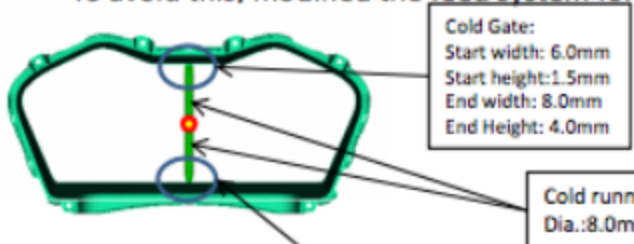
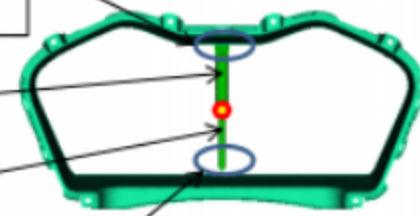

Fig. 1
Fig. 3
- Given runner & gate dimension was shown in fig1. & optimized runner & gate dimension is shown in fig.3.